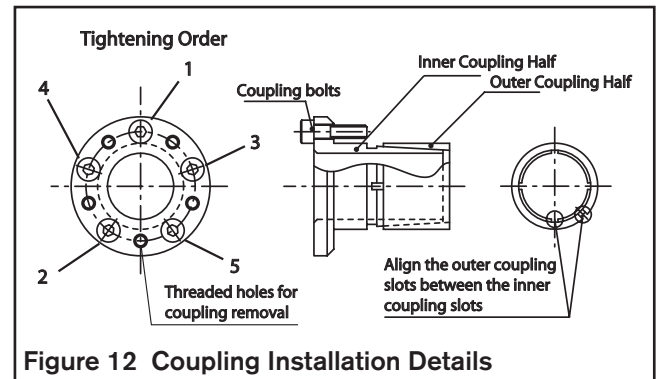

Figure 12 Coupling Installation Details
aligned as shown in Figure 12. For RPS32 and below you will also have to simultaneously ensure the coupling bolt through holes align with the pinion bolt holes. On RPS40 and larger the coupling bolts thread into the other half of the coupling, not the pinion body so misalignment is not possible. The threaded holes in the outer coupling end are for coupling removal.
NOTE: Ensure that the slots in the two components that make up the coupling are not aligned as shown in Figure 12.
9. Equally tighten the coupling fasteners with 25% of the recommended tightening torque listed in Table 3. Start tightening at the top fastener and alternate back and forth across the face in a star pattern as shown in Figure 12. (The number of bolts will vary with RPS size.) Repeat this procedure with 50% and then full torque. An additional 1 or 2 repetitions at full torque are recommended to ensure all fasteners have reached their target torque values. Progressive tightening of non-adjacent coupling fasteners is important to prevent any misalignment of components while installing the coupling.